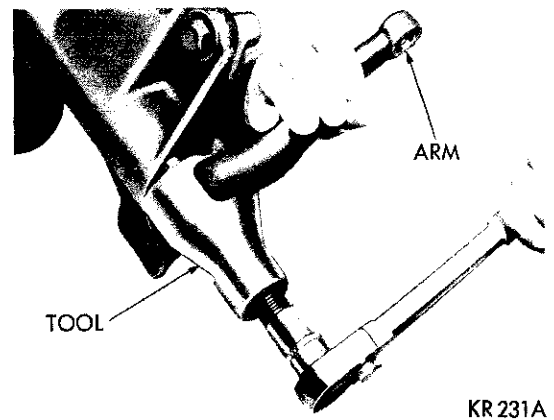

Fig. 23—Removing Steering Gear Arm
(1) Raise the vehicle.
(2) Remove the cotter key and nut connecting the steering gear arm to the center link.
(3) Remove the tie rod end with Tool C-3894. (See "Tie Rod End Replacement.")
(4) Remove the steering gear arm nut and washer.
(5) Slide Tool C-3646 upon the arm and place the shoe of the puller behind the steering arm (Fig. 23). Tightening the tool center screw against the gear shaft will pull the steering gear arm from the gear shaft.